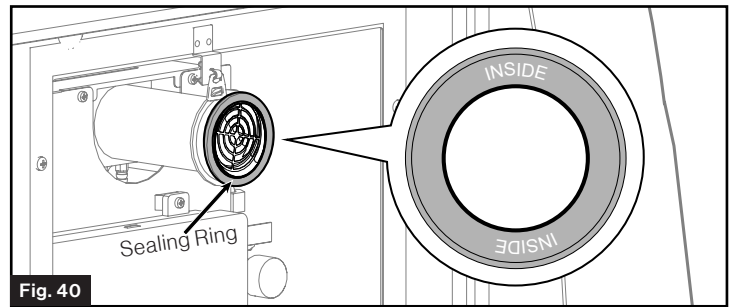

Fig. 40
12. A sealing ring is assembled on the chimney. (Fig. 40) Inspect to make sure the seal does not have any cracks or breaks, and that it is in good condition. Contact Furrion for replacement.